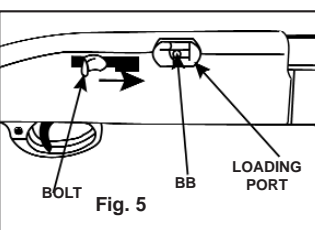

Fig. 5
- Push the bolt all the way forward slowly and you will see the BB move through the port. (Fig.5) The BB is now in a position to be fired out of the barrel.